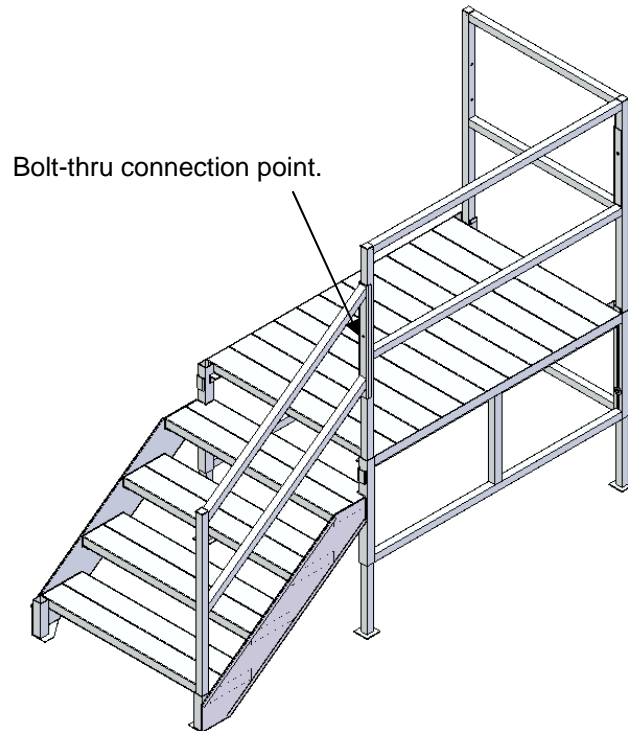

Figure 6: Step rail assembly.
-Insert the step rail into the riser pocket at the bottom of the steps as shown in **Figure 6**.